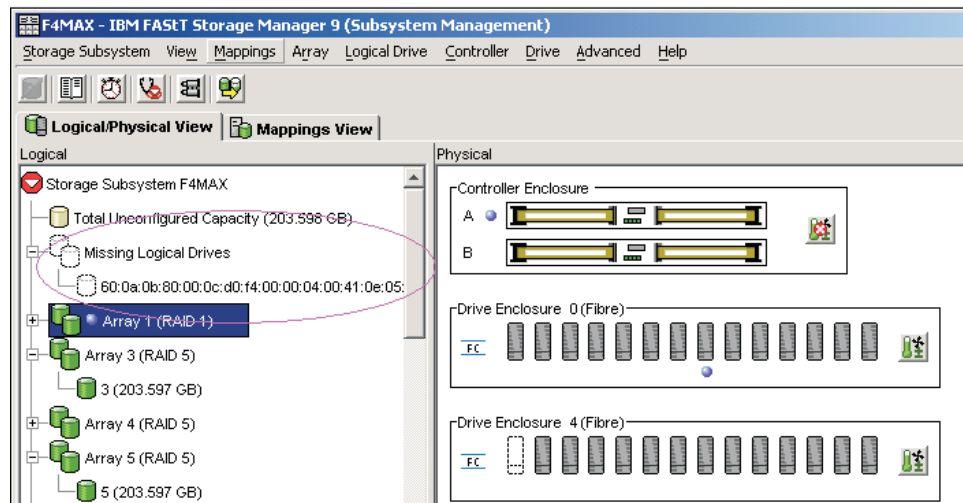

Figure 23. Subsystem Management Logical/Physical View of missing logical drives (controller firmware 7.xx.xx.xx or later)
**Note:** Figure 23 shows the array status as missing an array in subsystem because the array was not exported before the drives that made up the array were removed from the storage subsystem.